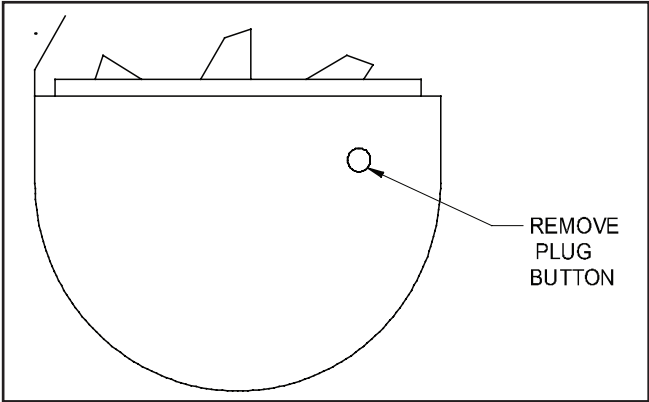

Figure 1
- 1. Remove the plug button on the side of the draft inducer housing. (See Figure 1)